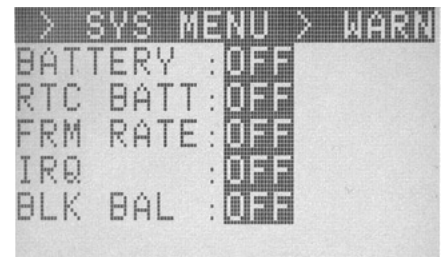

Figure 5-23 WARNING
- 3) Use the arrows   to select "WARNING" from the SYS MENU and press SET  to display the WARNING sub-menu. (Figure 5-23)